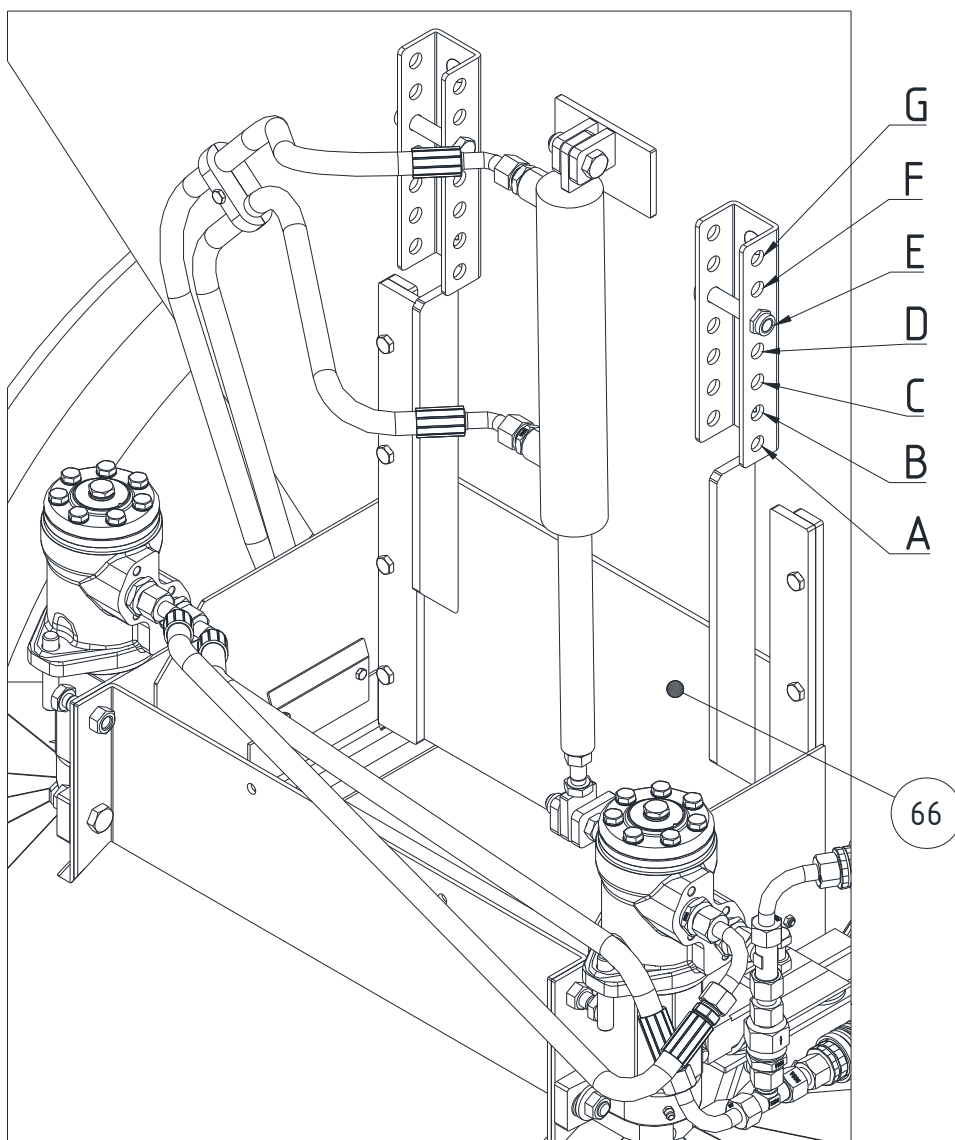
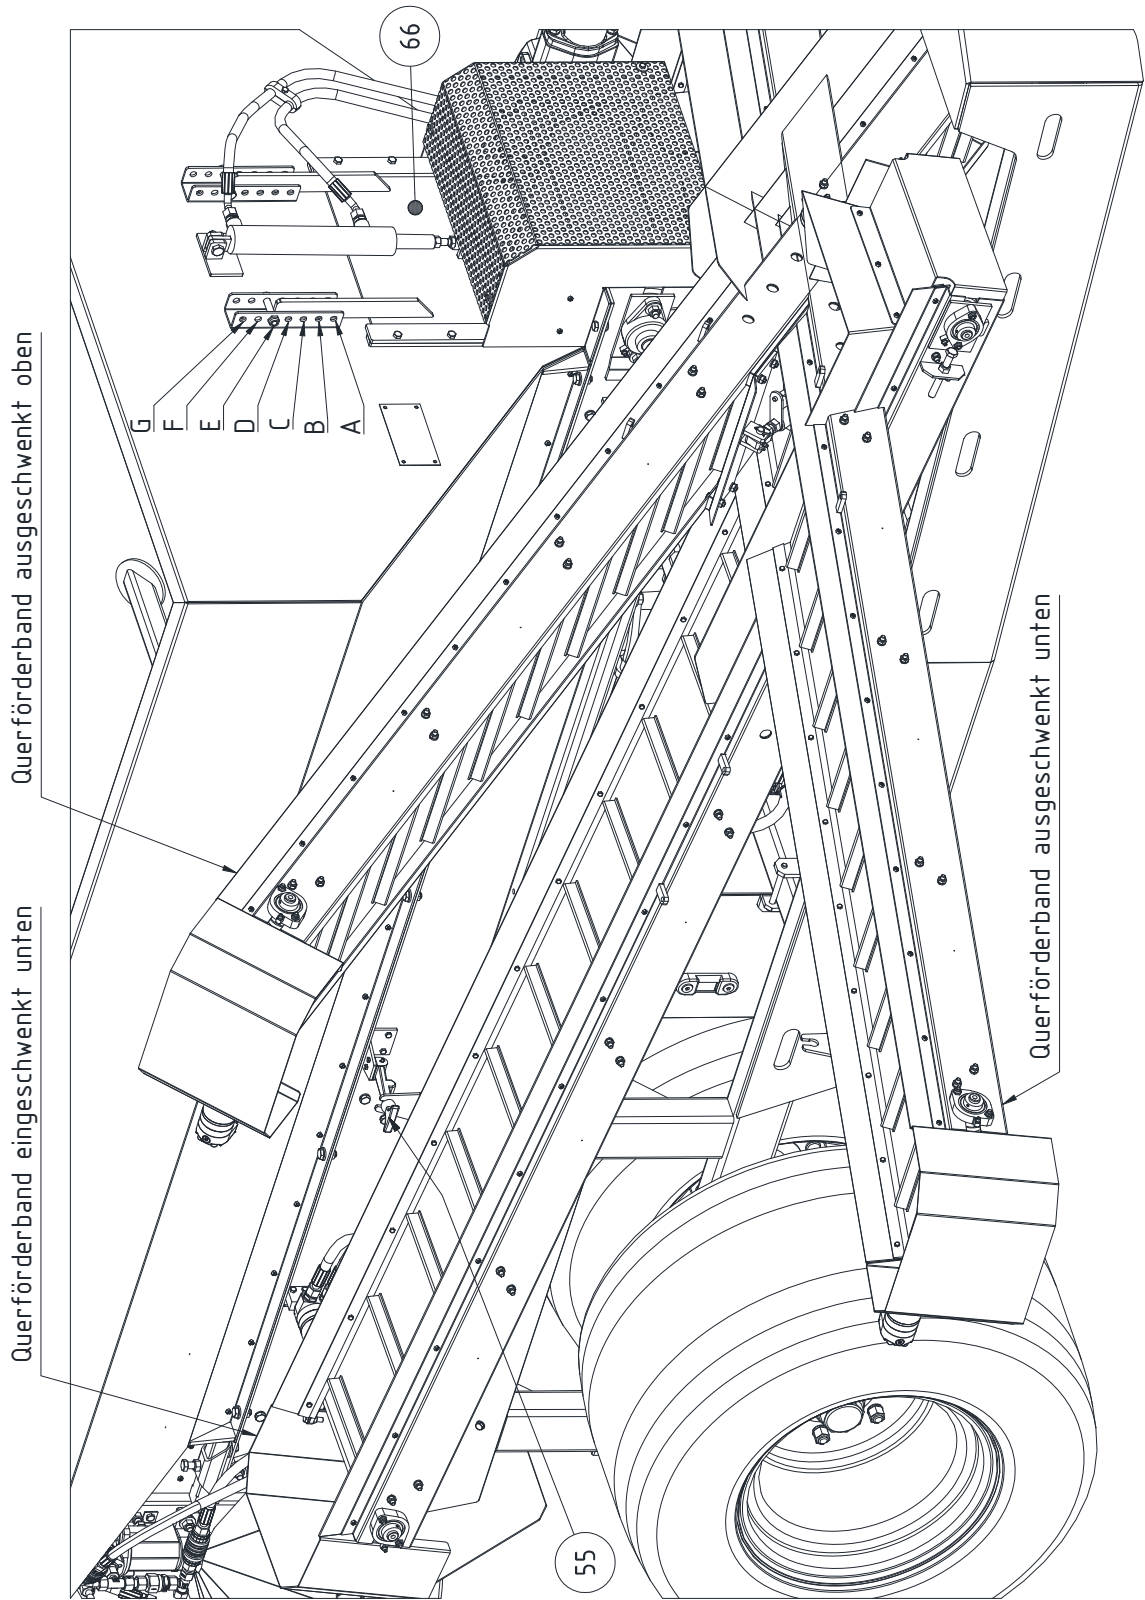

Fig.3: Control elements
Fig.6: Cross conveyor belt
. (See page 16, Fig. 6)
The control of the **DS3100CB RINK disc spreader** is switched on using the POWER switch (1). For spreading using the disc spreader, set the selector switch (2) on the disc spreader; this automatically activates the disc spreader. The conveyor belt and gate (66) are engaged by turning the switch for the conveyor belt (3) to the ON position, wherein first the gate (66) and then with a short delay the conveyor belt is activated. In the 0 position, the conveyor belt can be switched off and in CLOSE GATE position the gate can be closed. Before starting work, preselect gate position AG. (see page 10 Fig. 2 and page 13 Fig. 3)
- (66) Gate (see page 13 Fig. 3)
- Adjusting the opening A-G of the automatic gate (66) (see page 13 - Fig. 3)
The fixation (55) of the cross conveyor must be released. (see page 16, – Fig. 6)
The control of the **DS3100CB RINK disc spreader** is switched on using the POWER switch (1). For spreading using the cross conveyor, set the selector switch (2) to cross conveyor; this automatically activates the cross conveyor. With the switch for pivoting the cross conveyor belt (5) in and out, the cross conveyor belt must be completely pivoted out. Only then can the conveyor belt and gate (66) be engaged by turning the switch for the conveyor belt (3) to the ON position, wherein first the gate (66) and then after a short delay the conveyor belt is activated. In the 0 position, the conveyor belt can be switched off and in CLOSE GATE position the gate can be closed. Using the switch for raising and lowering the cross conveyor belt (6), the cross conveyor belt can be adjusted to the required operating height. For swinging in, the cross conveyor must first be put in the lowest position, after which it can be swung in. Before starting work, preselect gate position AG. (see page 10 Fig. 2, and page 16 Fig. 6)
- (66) Gate (see page 16 Fig. 6)
- the opening (A-G) of the automatic gate (66) (see page 13 Fig. 3 and page 16 Fig. 6)